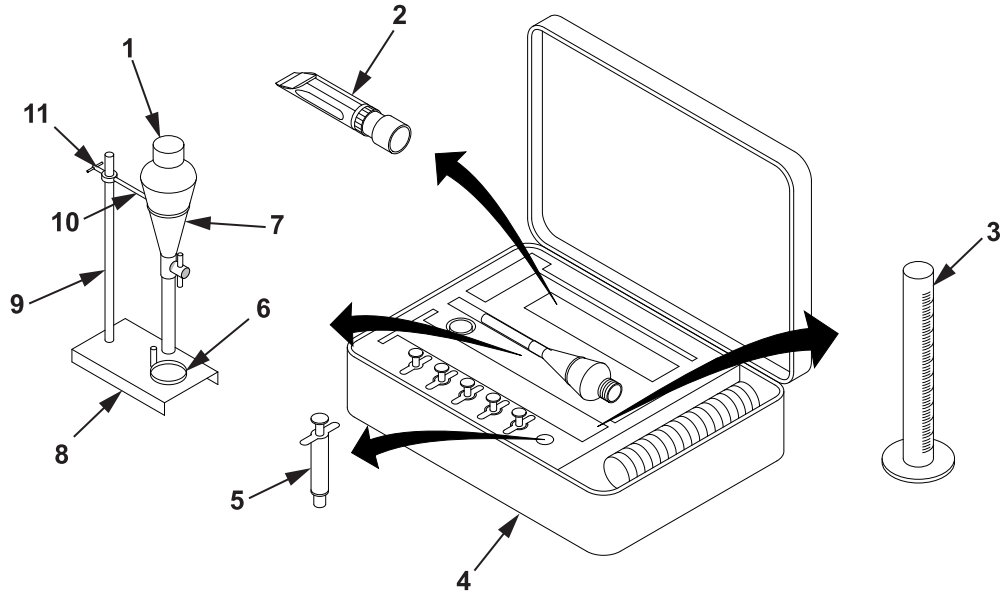
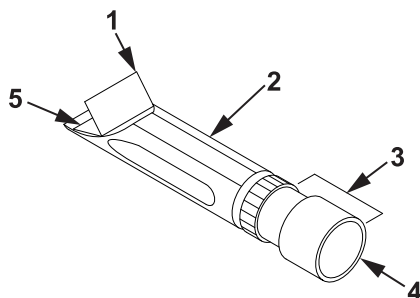
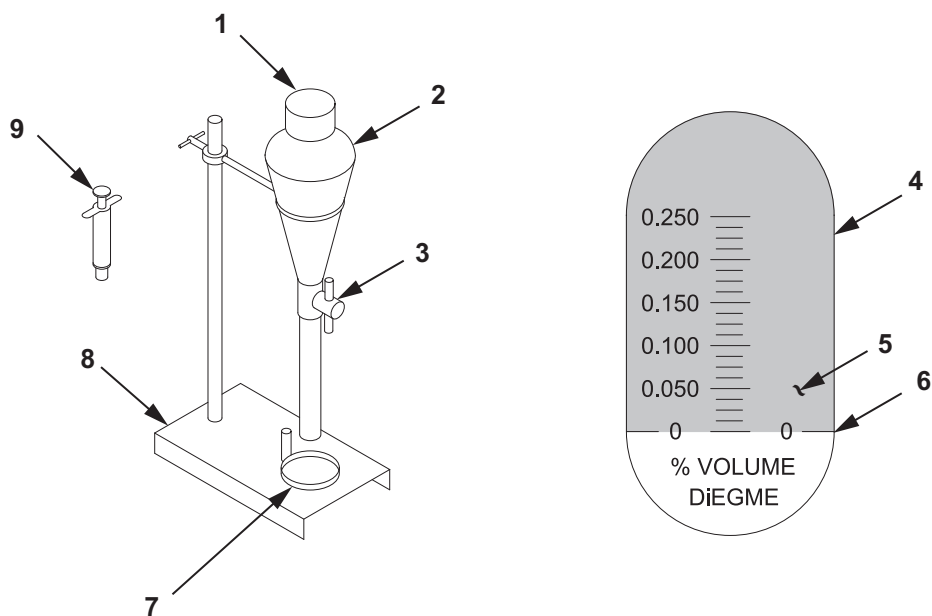
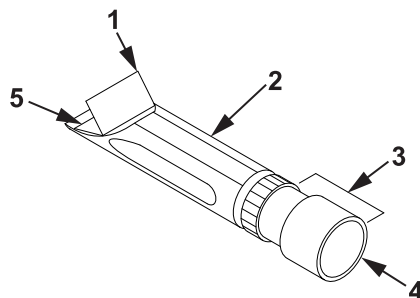

Figure 1. FSII Sample Test Kit.
Figure 2. Refractometer Used In %v Test.
Figure 3. Test Equipment In Stand and Scale As Viewed Through Refractometer.
Figure 4. Refractometer Used In %v Test.
1. Remove test kit stand (Figure 1, Item 8) with rod (Figure 1, Item 9), ring (Figure 1, Item 10), funnel bottle (Figure 1, Item 7), two foil dishes (Figure 1, Item 6), graduated beaker (Figure 1, Item 3) and piston type pipet (Figure 1, Item 5) from test kit case (Figure 1, Item 4).
2. Remove refractometer (Figure 1, Item 2) from box in test kit case (Figure 1, Item 4).
3. Install ring (Figure 1, Item 10) on rod (Figure 1, Item 9) and secure with T-handle (Figure 1, Item 11).
4. Place assembled test kit stand (Figure 1, Item 8) on flat, level surface.
5. Remove funnel bottle cap (Figure 1, Item 1) from test kit case (Figure 1, Item 4).
6. Fill one foil dish (Figure 1, Item 6) halfway with tap or other clean water source.
- a. Open sampling cover (Figure 2, Item 1) on refractometer (Figure 2, Item 2).
- b. Using a pencil (or other like object that will not deteriorate in fuel), dip tip into foil dish (Figure 1, Item 3) and place several drops of water on refractometer sampling window (Figure 2, Item 5).
- c. While looking into eye piece (Figure 2, Item 4), turn rim (Figure 2, Item 3) until test scale (Figure 3, Item 2) is clear.
- d. Locate shadow line (Figure 3, Item 5) in refractometer on test scale (Figure 3, Item 4). Proceed to step f if shadow line (Figure 3, Item 5) and zero mark (Figure 3, Item 6) are lined up or proceed to next step if not lined up.
- e. Using screwdriver, adjust test scale (Figure 3, Item 4) to zero.
- 1) Locate adjusting screw in middle of identification tag on refractometer (Figure 2, Item 2).
- 2) Using screwdriver, gently turn adjusting screw until shadow line (Figure 3, Item 5) and zero mark (Figure 3, Item 6) of test scale (Figure 3, Item 4) are aligned.
- f. Using cleaning cloth, dry refractometer (Figure 2, Item 2).
8. Install funnel bottle (Figure 3, Item 2) in test kit stand (Figure 3, Item 7) and verify drain valve (Figure 3, Item 3) at base of funnel bottle (Figure 3, Item 2) is closed.
1. Use graduated beaker (Figure 3, Item 1) to obtain 200 mL (6.8 fl oz) of fuel to be tested.
2. Pour 160 mL (5.44 fl oz) of test fuel into funnel bottle (Figure 3, Item 2).
3. Using piston type pipet (Figure 3, Item 9), draw water from foil dish (Figure 3, Item 7).
4. Release exactly 2 mL (0.068 fl oz) of water into funnel bottle (Figure 3, Item 2).
5. Install funnel bottle cap (Figure 3, Item 1) on funnel bottle (Figure 3, Item 2).
6. Remove funnel bottle (Figure 3, Item 2) from test kit stand (Figure 3, Item 8) and shake for 5 minutes to combine fuel and water.
7. Place funnel bottle (Figure 3, Item 2) back in test kit stand (Figure 3, Item 8) and a clean foil dish (Figure 3, Item 7) under drain valve (Figure 3, Item 3).
9. Slowly open drain valve (Figure 3, Item 3) and allow small amount of water to drain into foil dish (Figure 3, Item 7). If nothing drains into foil dish (Figure 3, Item 7), close drain valve (Figure 3, Item 3), loosen funnel bottle cap (Figure 3, Item 1) and slowly open drain valve (Figure 3, Item 3) again.
10. Close drain valve (Figure 3, Item 3) when several drops of water have drained into foil dish (Figure 3, Item 7).
11. Open sampling cover (Figure 4, Item 1) on refractometer (Figure 4, Item 2).
12. Using a pencil or other like object, dip tip into foil dish (Figure 3, Item 7) and place several drops of water on refractometer sampling window (Figure 4, Item 5).
13. Close sampling cover (Figure 4, Item 1) on refractometer (Figure 4, Item 2).